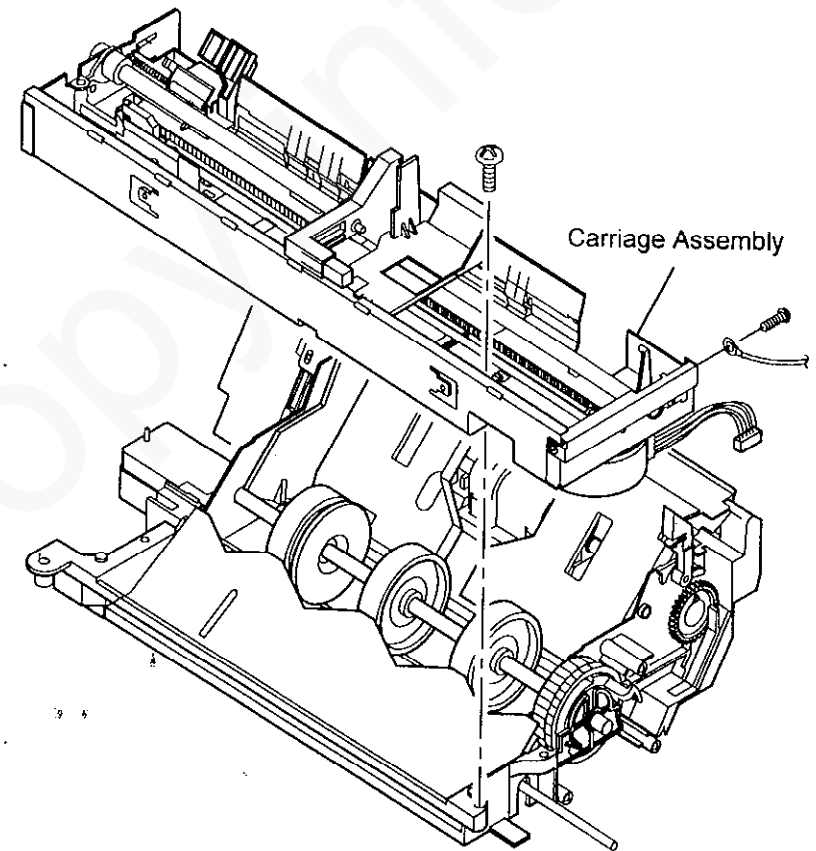

Figure 3 Removing the Carriage Assembly
7. Remove the Carriage Assembly (Figure 3).